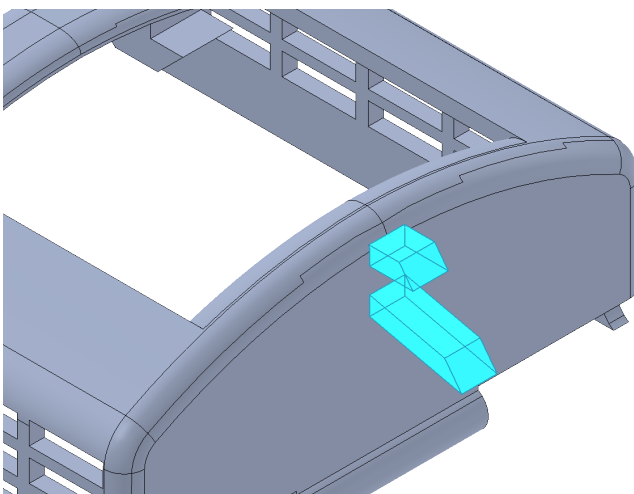

Fig. 141
click **all face extending out the rear (10)**, **Fig. 141**